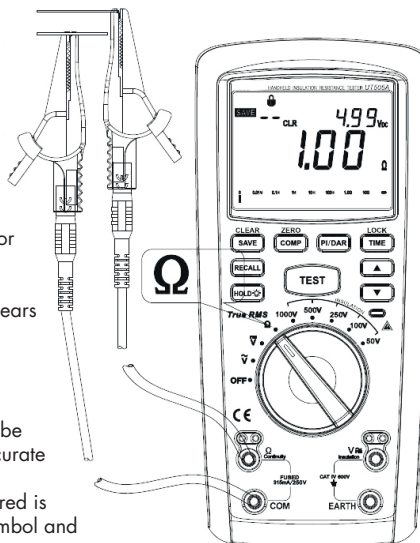

FIGURE 6
3. Measurement of low-resistance (see figure 6)